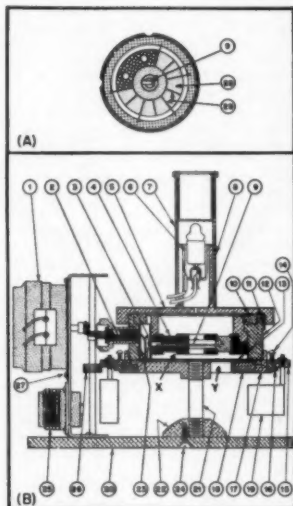

Fig. 8. (A) Plan view of crystal assembly in transducers, and (B) cross section of transmitting transducer.
In Fig. 8, (B) shows a section through a transmitting transducer, which consists of a cylindrical metal shell (12) sealed at one end by a thin aluminum diaphragm (13) and covered at the other end by a metal cap (5). Mounted concentrically inside the shell is a crystal assembly (4) which can be raised or lowered by means of a tuning ring (10) so that the space (X) between the bottom of the crystal assembly and the top of the diaphragm can be varied. The diaphragm is held in place by a clamping plate (18) from which a section (Y) having the shape of the crystal group is removed. Electrical connection is made to the crystal group through the inner electrode (9) and outer electrode (2) by means of the spring contacts (3) soldered to the ends of each electrode. A geared splitting ring (15) supports the splitting vanes (19). The teeth on the periphery of the ring engage with a spur gear (26) so that the ring is revolved slowly about the transducer by the motor (1). The height of the splitting ring can be adjusted slightly by the three screws (14). These screws raise or lower the seat (17) on which the ring rests. The transducer assembly is supported by a post (21) screwed into a reflecting cone (22) which in turn is fastened to a base plate (20). A lamp assembly (6) and light projection system (7) is mounted on the cap of the transducer. A top view of the crystal assembly is shown at (A) in Fig. 8. The crystal element is made up of a group of eight keystone-shaped crystals (28) so arranged in doughnut form that vertical faces of like polarity are adjacent. Thin foil strips (29) are cemented to the vertical faces of the crystals and strips of like polarity are soldered to the inner electrode while those of opposite polarity make contact with the transducer shell. The eight crystals are thus connected in parallel across the energizing voltage.